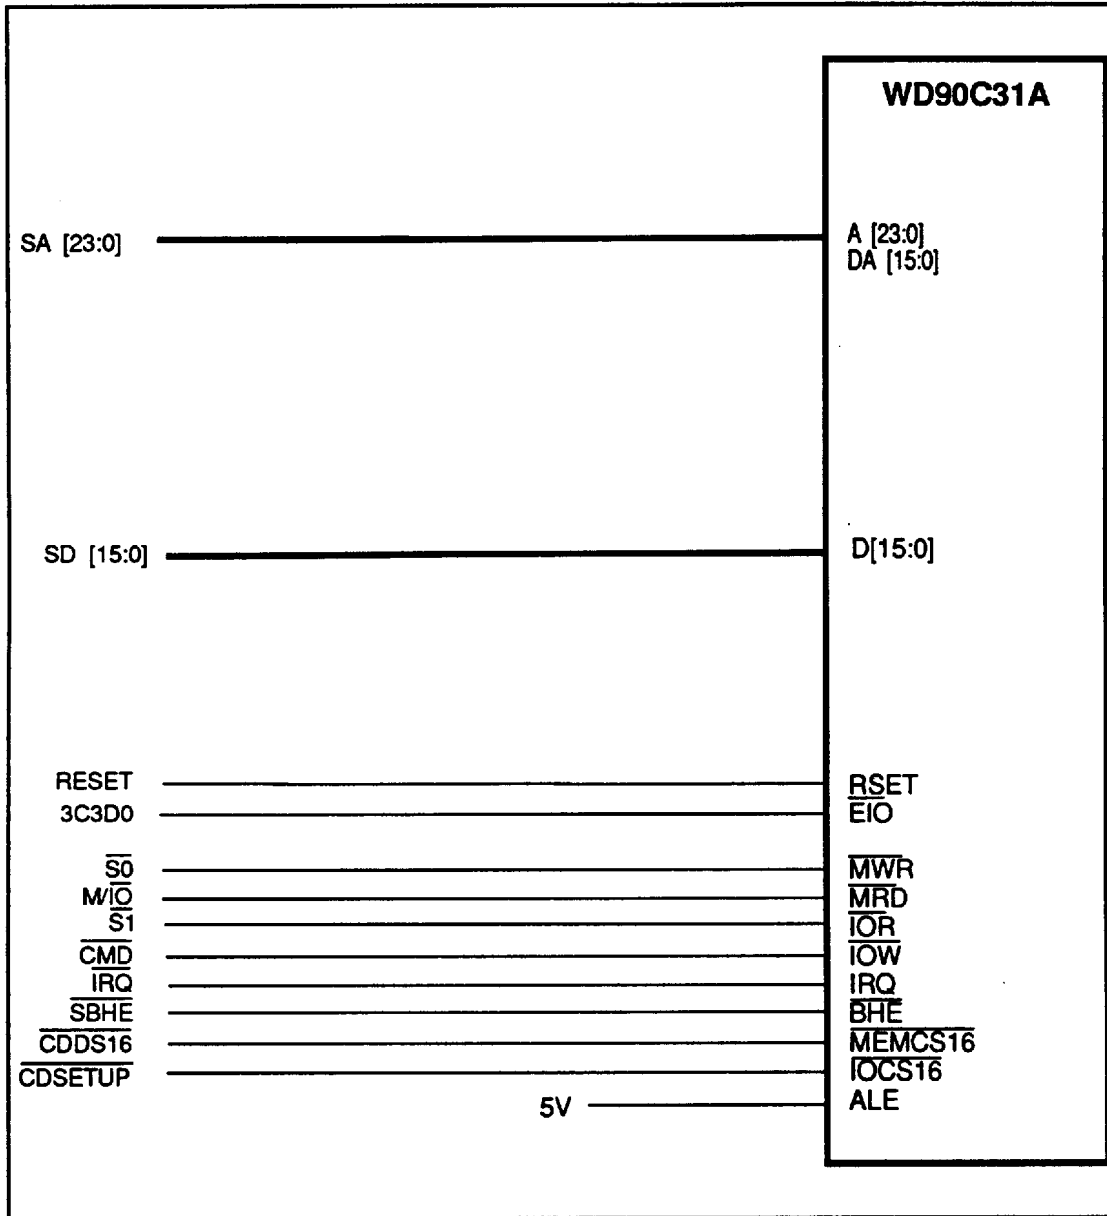

FIGURE 3-7 MICROCHANNEL (16-BIT) INTERFACE
- Figure 3-7. MicroChannel (16-bit) Interface
Figure 3-7 shows the interface between a 16-bit Microchannel compatible bus and the WD90C33 Controller. The 3C3D0 signal is output from the VGA Subsystem Enable Register (3C3h, bit 0). The typical use for this configuration is with MicroChannel based systems.